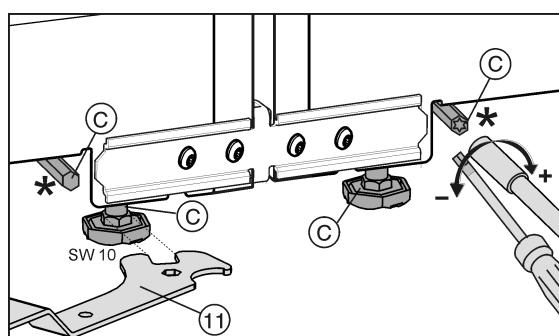

Fig. 25
The front adjustment feet can be adjusted with the supplied open-end wrench Fig. 25 (11) and the rear adjustment feet* with a 1/4" bit attachment.